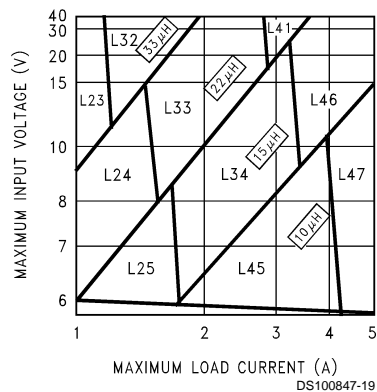
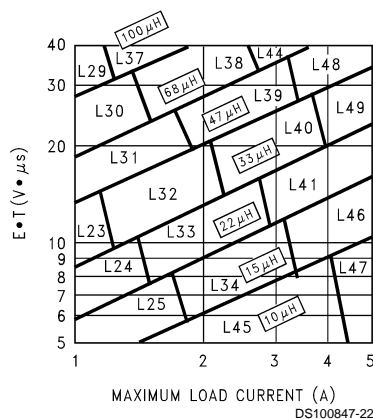

FIGURE 3. LM2679-3.3
FIGURE 6. LM2679-ADJ
Step 3: Determine the inductor required by using one of the four nomographs, *Figure 3* through *Figure 6*. Table 1 provides a specific manufacturer and part number for the inductor.
Step 5: Determine an input capacitor from Table 4 for fixed output voltage applications. Use Table 2 to find the specific capacitor type. For adjustable output circuits select a capacitor from Table 2 with a sufficient working voltage (WV) rating greater than $V_{in\ max}$, and an rms current rating greater than one-half the maximum load current (2 or more capacitors in parallel may be required).
Step 3: Use the nomograph for the 3.3V device, *Figure 3*. The intersection of the 16V horizontal line ($V_{in\ max}$) and the 4A vertical line ($I_{load\ max}$) indicates that L46, a 15 μ H inductor, is required.
Step 3: To use the nomograph for the adjustable device, Figure 6, requires a calculation of the inductor Volt•microsecond constant ($E \cdot T$ expressed in $V \cdot \mu\text{S}$) from the following formula:
Using Figure 6, the intersection of $27V \cdot \mu\text{S}$ horizontally and the 3.5A vertical line ($I_{load \text{ max}}$) indicates that L48, a 47 μH inductor, or L49, a 33 μH inductor could be used. Either inductor will be suitable, but for this example selecting the larger inductance will result in lower ripple current.
Important Note: When using the adjustable device in low voltage applications (less than 3V output), if the nomograph, Figure 6, selects an inductance of 22 μH or less, Table 6 does not provide an output capacitor solution. With these conditions the number of output capacitors required for stable operation becomes impractical. It is recommended to use either a 33 μH or 47 μH inductor and the output capacitors from Table 6.